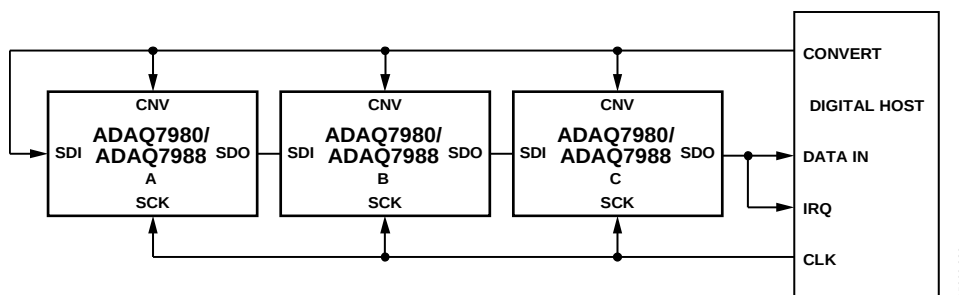
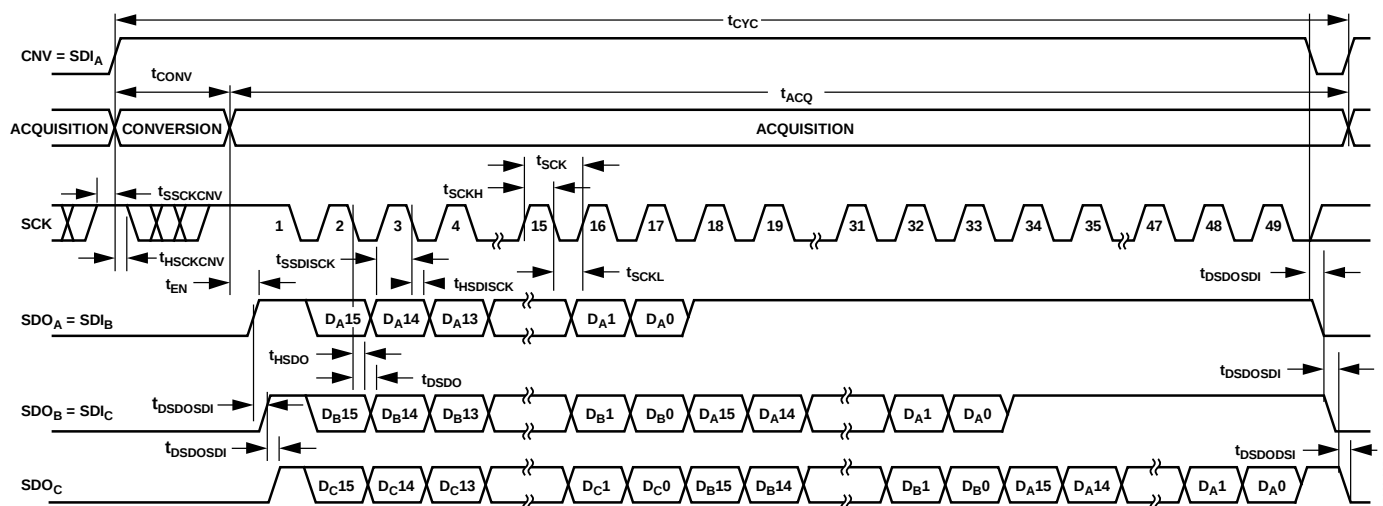

Figure 81. Chain Mode with the Busy Indicator Connection Diagram
Figure 82. Chain Mode with Busy Indicator Serial Interface Timing
- In chain mode if SCK is high during the CNV rising edge (see Figure 82).
Figure 81 shows a connection diagram example using three ADAQ7980/ADAQ7988 devices, and Figure 82 shows the corresponding timing.
In this mode, hold CNV high during the conversion phase and the subsequent data readback. When all ADCs in the chain complete their conversions, drive the SDO pin of the ADC closest to the digital host (see the ADAQ7980/ADAQ7988 ADC labeled C in Figure 81) high. Use this transition on SDO as a busy indicator to trigger the data readback controlled by the digital host. The ADAQ7980/ADAQ7988 then enter the acquisition phase and power down. The data bits stored in the internal shift register clock out, MSB first, by subsequent SCK falling edges. For each ADC, SDI feeds the input of the internal shift register and clocks out by the SCK falling edge. Each ADC in the chain outputs its data MSB first, and $16 \times N + 1$ clocks are required to read back the N ADCs. Although the rising edge can capture the data, a digital host using the SCK falling edge allows a faster reading rate and, consequently, more ADAQ7980/ADAQ7988 devices in the chain, if the digital host has an acceptable hold time.